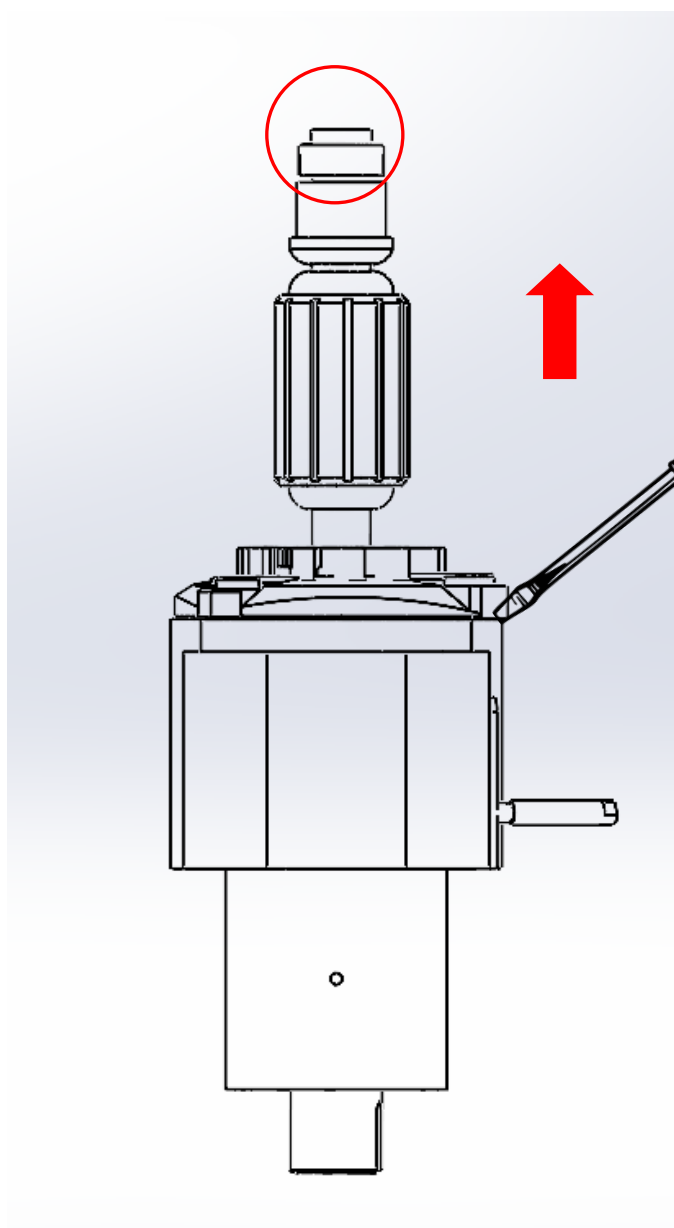

Figure 2.13
- 2.5.3 Once the two parts are separated, place the gearbox part vertically as in figure 2.13, to prevent grease from escaping;
- 2.5.4 Using a screwdriver, pry and remove the piece in the direction of the red arrow (see figure 2.13);
- 2.5.5 Once the armature has been pulled, pay attention to the magnetic ring, highlighted in the circle in figure 2.13;